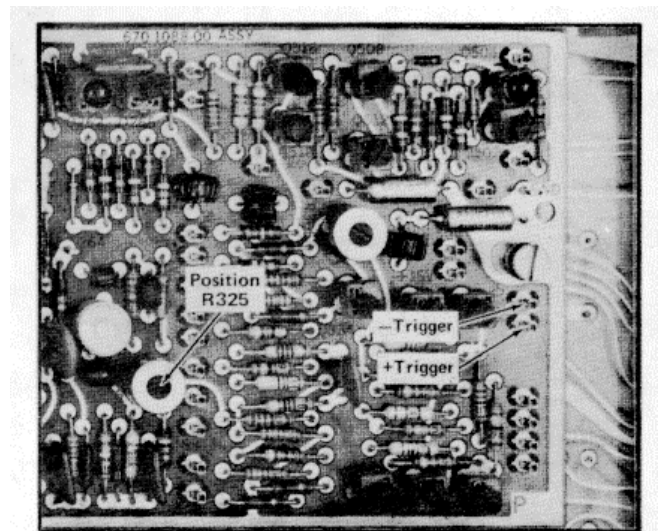

Fig. 6-11. Control and test point locations (7S11 right side) for DC OFFSET and real-time trigger checks.
e. Adjust Position control R325, shown in Fig. 6-11, to move the top of the displayed 7S11 signal to the center of the graticule.
e. Measure the signal amplitude at +Trigger and -Trigger pins with the 1X probe and add the two amplitudes. See Fig. 6-11.